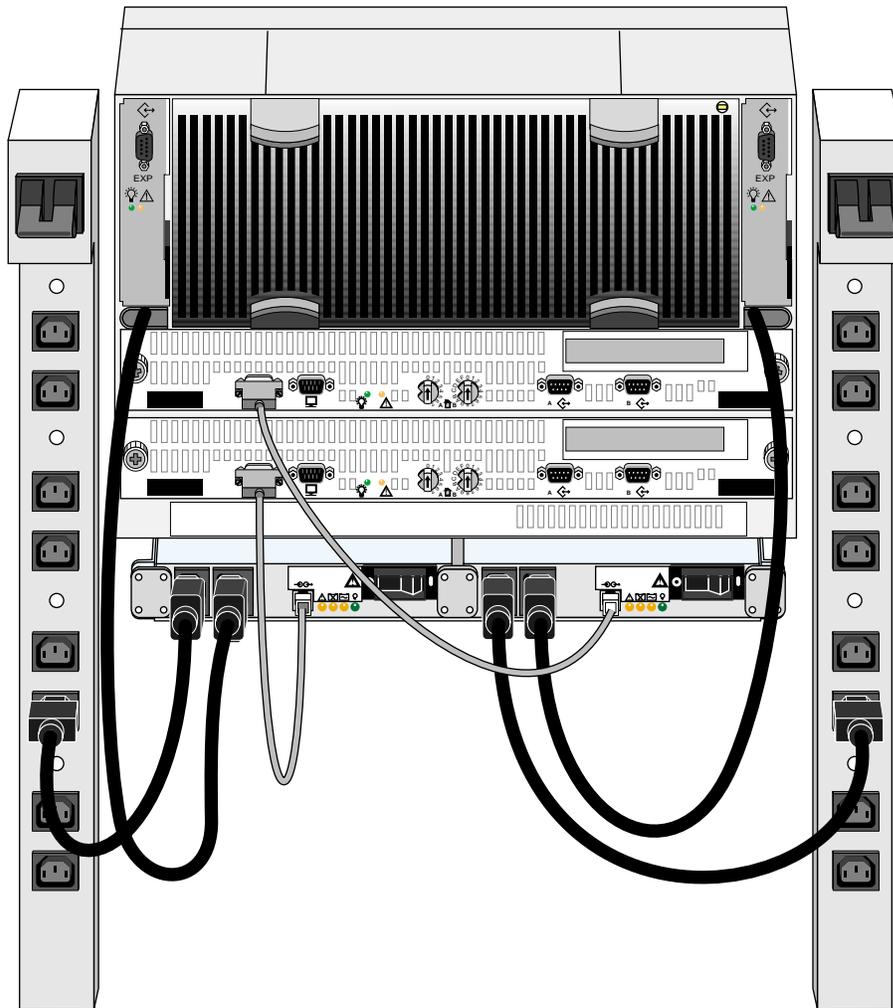

Figure 3-15 Two Rackmounted SPS Examples With Cabling (Rear View)
Note that the RAID enclosure's storage processor (SP) board cannot use write caching unless a fully charged SPS is connected. If the SP does not detect a functional SPS, it automatically disables write caching, reenabling it as soon as a functional SPS is detected. The SPS is always installed or replaced by a trained and approved field service technician. Figure 3-15 shows two SPS units connected to a RAID enclosure in a rack.